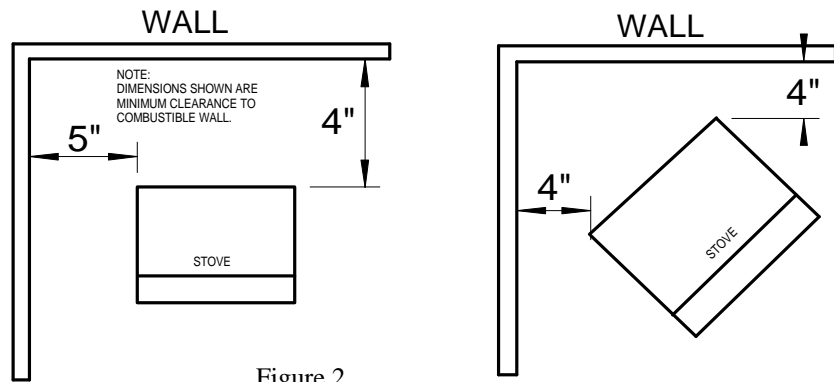

Figure 2
**NOTE:** For safe installation the minimum clearances must be met. See Figure 2. For floor protector, see last paragraph, page 8.
NOTE: Clearance from top of appliance to ceiling is 42". (Not shown in figure 2)
**Optional Pedestal (Part#FAP11) Instructions:** Lay heater on its back (use a drop-cloth to protect back of heater and surface of your flooring). Place pedestal against bottom of heater. Center pedestal from left to right and from front to rear. Mark holes on angle of the top of pedestal onto bottom of heater. Lay pedestal aside. Drill the marks made onto heater with a 1/8" bit (not provided). Replace pedestal and secure with screws provided. **Next** stand heater to upright position. Place heater in desired location following clearances above in figure 2. **Note:** At this point you may need to secure pedestal to floor with screws or an “ell” bracket (not provided) for safety concerns. **Next** hook up gas supply line following instructions in this manual completely.